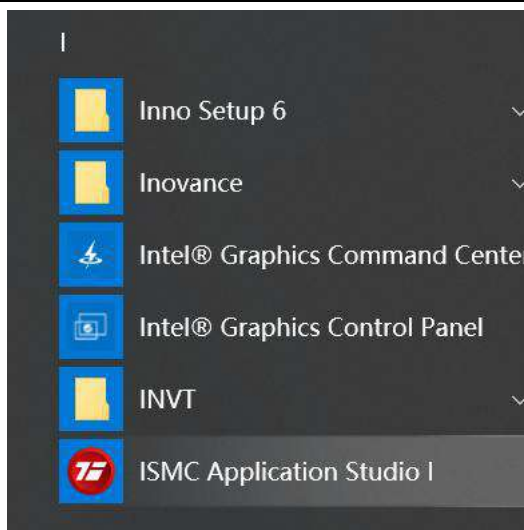

Figure 1-6 Start menu file
⑦After installation, a shortcut to the ISMC software will be created in the "Desktop" "Start" "All Programs" menu of your computer. As shown in Figure 1-6.